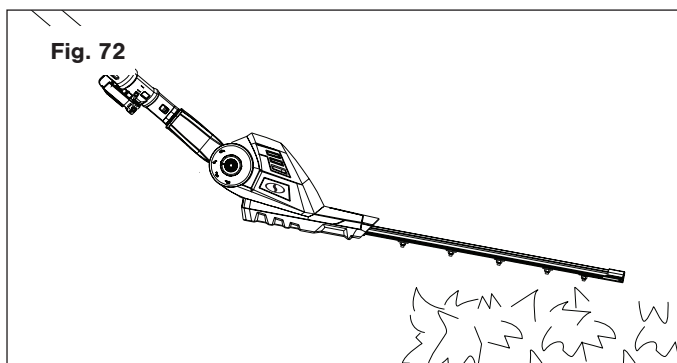

Fig. 72
2. To use pole hedge trimmer for trimming the bottoms and sides of hedges and shrubs, hold the pole trimmer at the position shown below (Fig. 72).